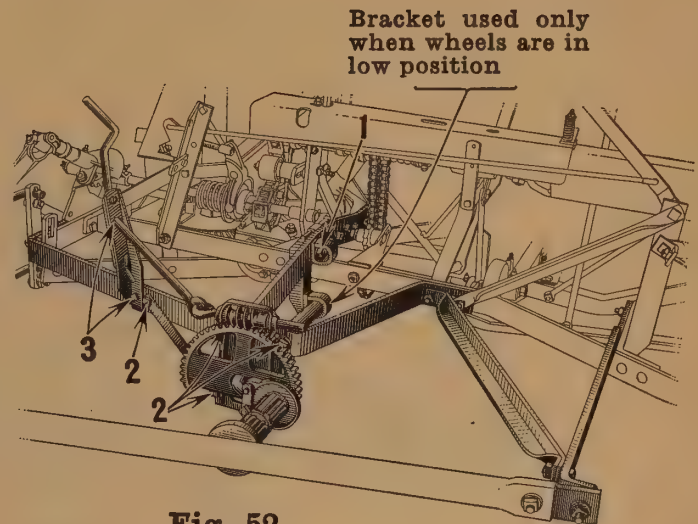

Fig. 52
1. (Fig. 52.) Bolt inner axle bracket for R. H. main wheel extension to frame extension cross sill as shown.
2. (Fig. 52.) Insert L. H. end of axle into axle bracket and bolt outer axle bracket to frame extension side sill—flat brace goes to rear of outer axle bracket as shown.
3. (Fig. 52.) Slip raising crank support post with link onto crank at lower hole in post and bolt post to outside of frame extension side sill.